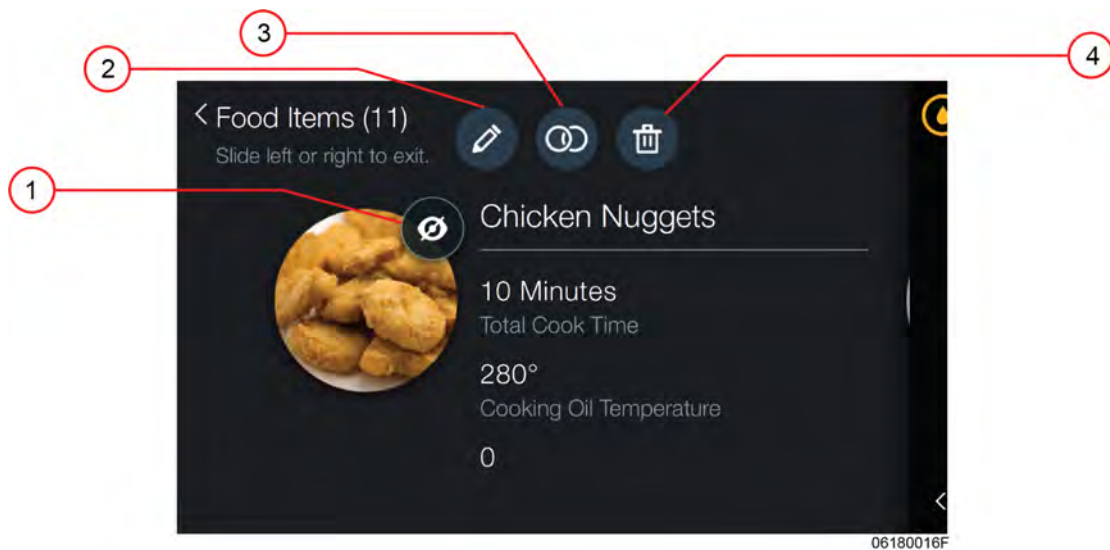

Figure 5-8 Managing food items
Manage food items allows you to copy, edit, or delete your food items. Tap **Manage Food Items** and your food items are displayed. Swipe left or right to view all food items as only three appear on the display at any given time. If the hidden icon is displayed on any of your food items, this item will not display when normal cooking resumes. Tap on a food item to edit, copy, or delete it, see Figure 5-8 Managing food items, page 42.
- 1) Select **Settings > Food Item Settings**, type the code 1,2,3,4 and then select **Manage Food Items**. Select the food item you would like to edit, then tap the edit icon, see Figure 5-8 Managing food items, page 42 for a description of icons.
- **Deleting a single food item** - Select **Settings > Food Item Settings**, type the code 1,2,3,4 and then select **Manage Food Items**. Tap a food item then tap the delete icon, see Figure 5-8 Managing food items, page 42 for a description of icons. **Are you sure you want to delete? Cancel or Delete** is displayed. Tap **Delete** to completely remove the food item from the control. Tap **Cancel** to go back to the previous step.
- **Deleting multiple food items at once**- Starting from the Food Item menu select **Settings > Manage Food Items**. Tap the delete icon in the lower left corner, then select all of the food items you would like to delete. A checkmark appears on each item you have selected. Once you have made your selections, tap the delete icon in the upper left corner, see Figure 5-8 Managing food items, page 42 for a description of icons. **Are you sure you want to delete? Cancel or Delete** is displayed. Tap **Delete** to completely remove the food item from the control. Tap **cancel** to go back to the previous step.